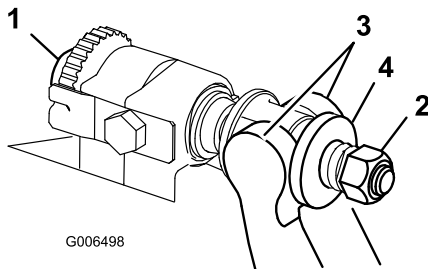

Figure 25
- Turn bedbar adjuster screws, counterclockwise, to back bedknife away from reel (Figure 25).
- Back out the spring tension nut, until the washer is no longer tensioned against the bedbar (Figure 25).